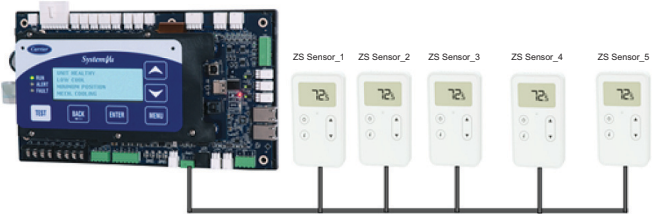

Fig. 19 – SystemVu to ZS Sensor Connection Diagram
3. SystemVu supports up to 5 Zone Sensors which can be connected over Rnet Port (see Fig. 19).